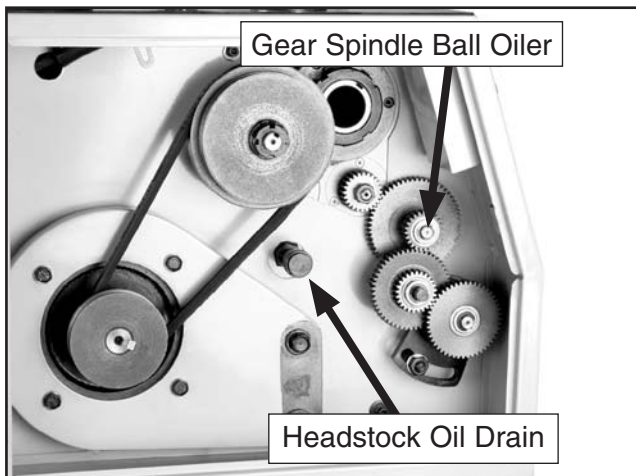

Figure 48. Headstock and gear box drain locations.
Paint all gears in **Figure 48** with a good quality automotive wheel bearing grease as required to keep lubricated.
- Gear Spindle Ball Oiler (1 ball oiler, see **Figure 48**)